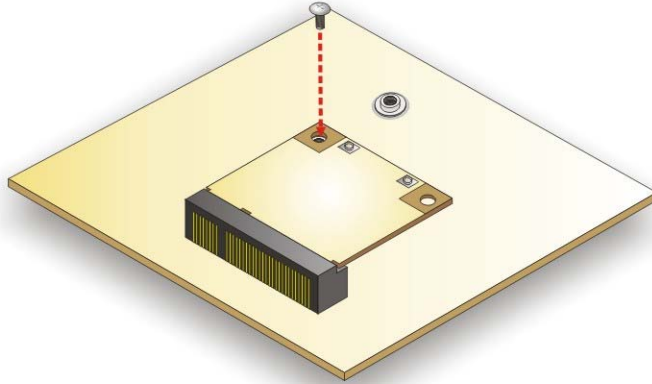

Figure 3-11: Securing WLAN Module
Step 7: Secure the WLAN module with the previously removed retention screw (Figure 3-11).